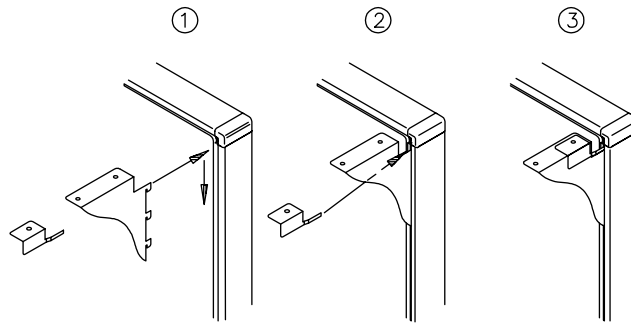

FIG. 1
2. With the top cap still on the panel, insert the right-hand countertop bracket into the panel trimrail so that the top tooth on the bracket is in the top slot of the trimrail. Tap the countertop bracket down with a hammer until it is fully seated (Figure 1 - Step 1).
3. Slide a right-hand countertop lock bracket into the remaining space in the top trimrail slot while holding the lock bracket (Figure 1 - Step 2). When lock bracket is fully installed, the holes should line up on both brackets (Figure 1 - Step 3).